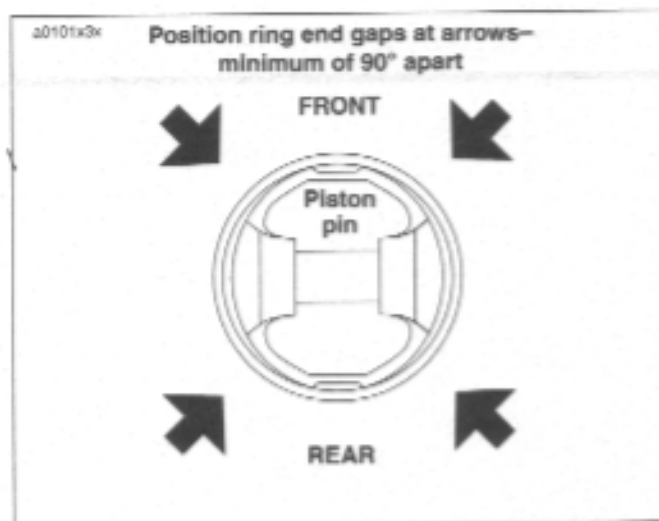

Figure 3-109. Ring End Gap Position
5. See Figure 3-109. Make sure the piston ring end gaps are properly positioned as shown.